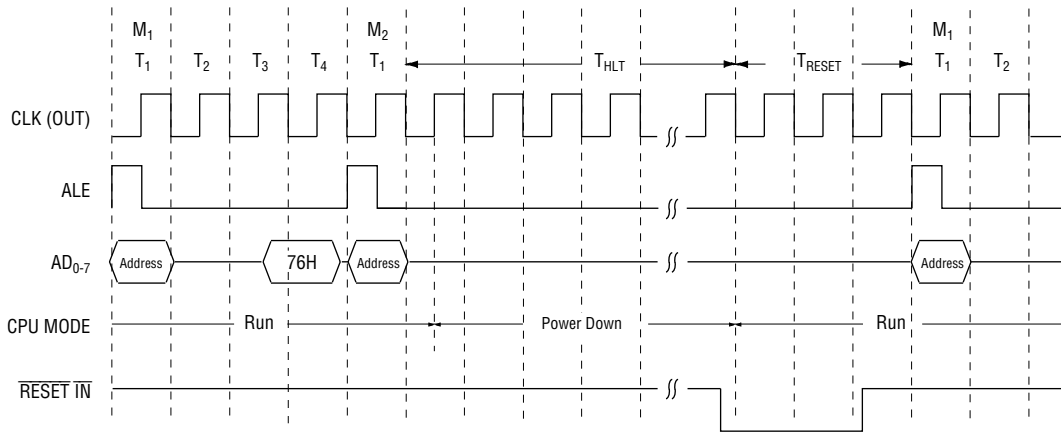

Figure 6 Started by HALT and Released by RESET IN
(1) Start by means of HALT command (See Figures 6 and 7.)